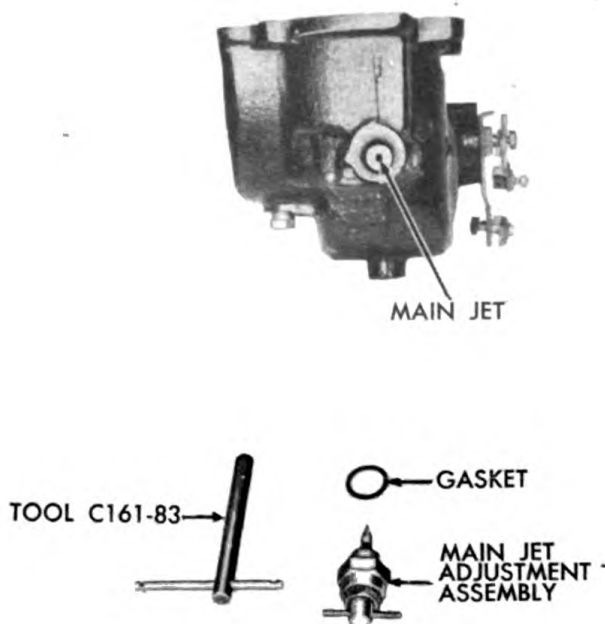

Figure 262. Carburetor with Main Jet Removed.
P. Remove the main jet adjustment and fibre washer from the outside of fuel bowl near bottom, using an end wrench. Figure 262.
F. Install main jet adjustment and fibre washer in threaded passage over main jet, using a 5/8" wrench. Figure 262.